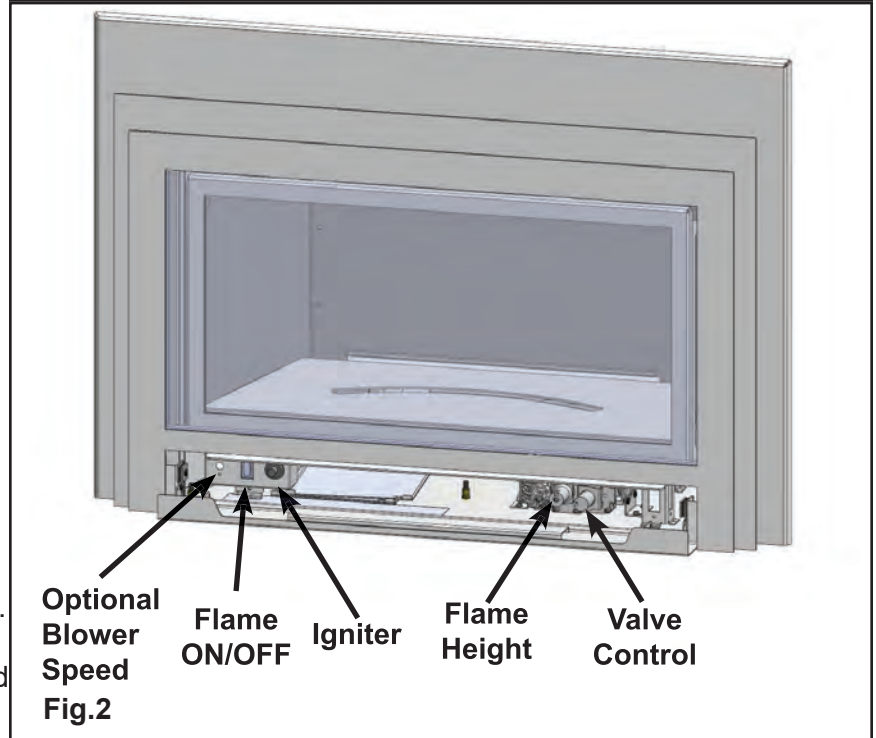

Fig.2
The CLARITY CL2714 SP controls are located behind the hinged flap beneath the firebox.(Fig.2) To light the burner follow the steps below:
3. Flip the flame ON/OFF switch, located beside the igniter to ON.(Fig.2)
4. Turn the "Flame Height" knob to the desired flame height.(Fig.2)
An optional blower S.Z4946.SP is available. For installation refer to the installation instructions provided with the kit. Turn the blower on by turning the "Blower Speed" knob clockwise .(Fig.2) The blower will only come on when the fireplace is up to temperature (approximately 10-15 minutes) because it is equipped with a thermal switch. Fan speed control sequence is off, then maximum to minimum. The speed of the fan can be decreased by turning the knob clockwise . The speed of the fan can be increased by turning the knob counterclockwise . The blower will continue to operate after the burner is turned off (approximately 15-20 minutes). To turn the blower off manually, turn the fan control knob counterclockwise  until it "clicks".